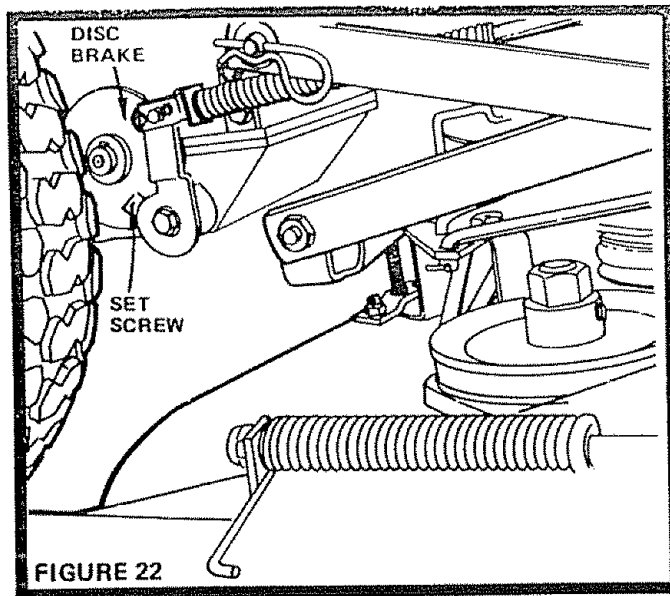

FIGURE 22
This tractor is equipped with an adjustable Disc Brake mounted on the right side of the transaxle (Fig. 22).
- a. To adjust, tighten Set Screw until Disc Brake can not be moved by hand, approximately 1/4 to 1/2 turn clockwise. Now loosen Set Screw until Disc Brake is just moveable by hand (Fig. 22).